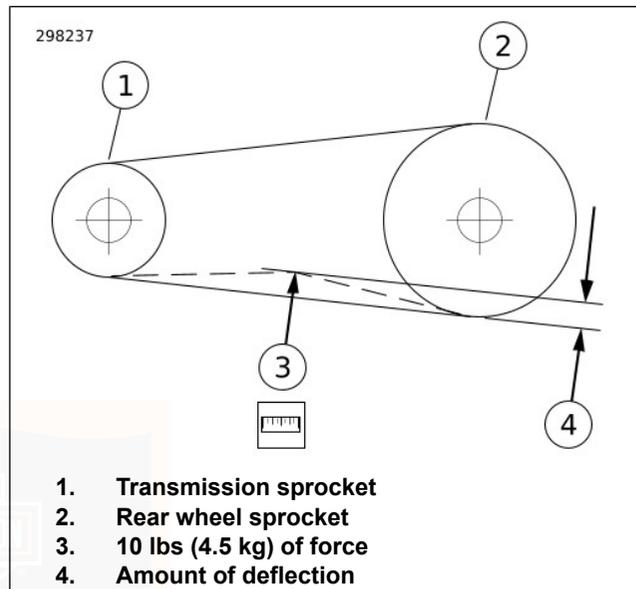

Figure 48. Checking Belt Deflection
3. See Figure 48. Fit cradle against bottom of belt midway between transmission sprocket and rear sprocket.